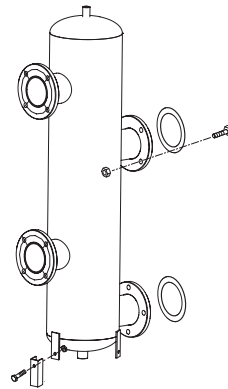

Fig. 6
1.10 HYDRAULIC COMPENSATOR, CODE 8101553 (to be requested separately) (fig. 6)